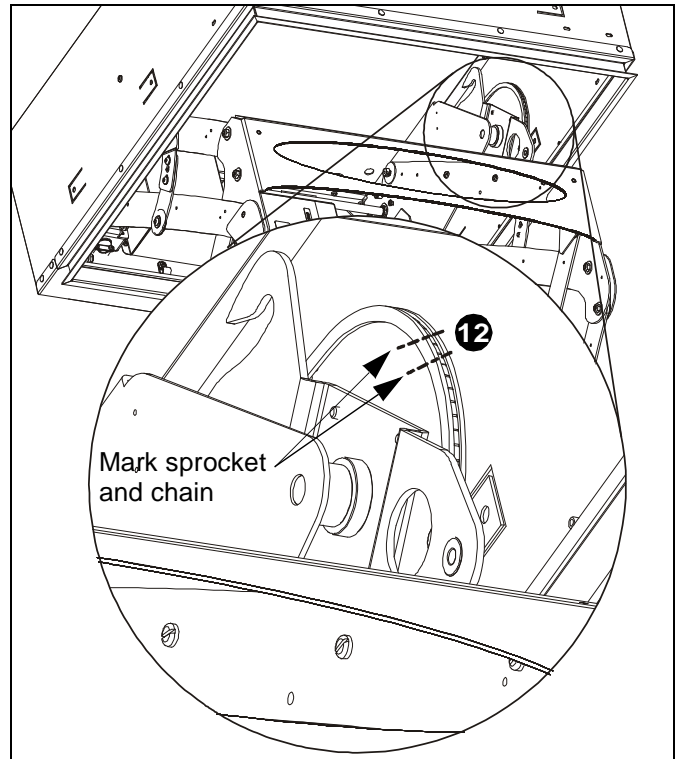

Figure 6
12. Mark relationship between chain and sprocket. (See Figure 6)